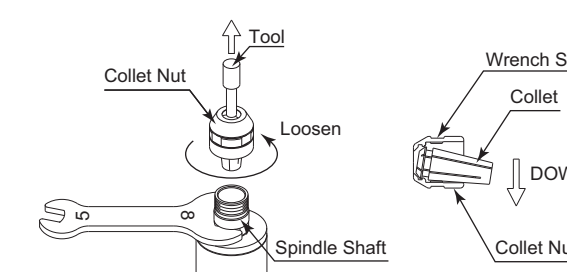

Fig. 9
- Remove the tool according to the section "7. CHANGING THE TOOL" procedure above and remove collet nut assembly (Fig. 9).